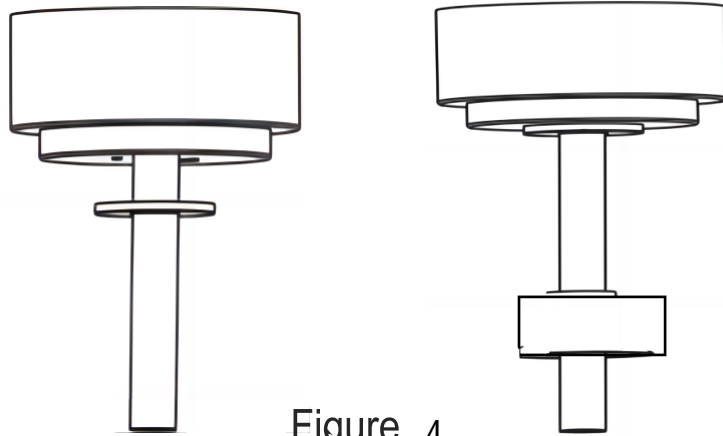

Figure 4
4. Install the canopy, magnetic cover and bell cover on the downrod.(Figure 4)